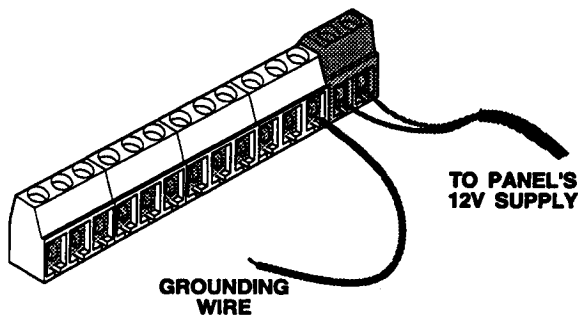

Figure 9. Installing a Grounding Wire On the Receiver
- 1) Install a grounding wire to the receiver's GND terminal (see Figure 9).